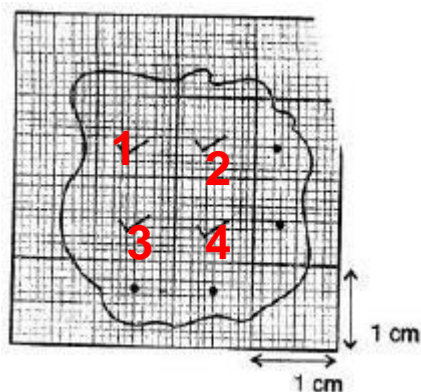

Figure 2.1: The outline of the glass piece on a graph paper.
- For measurement of area of the glass plate, put it on a graph paper. Draw its outline on the paper using a sharp pencil. A typical picture is presented in figure 2.1.